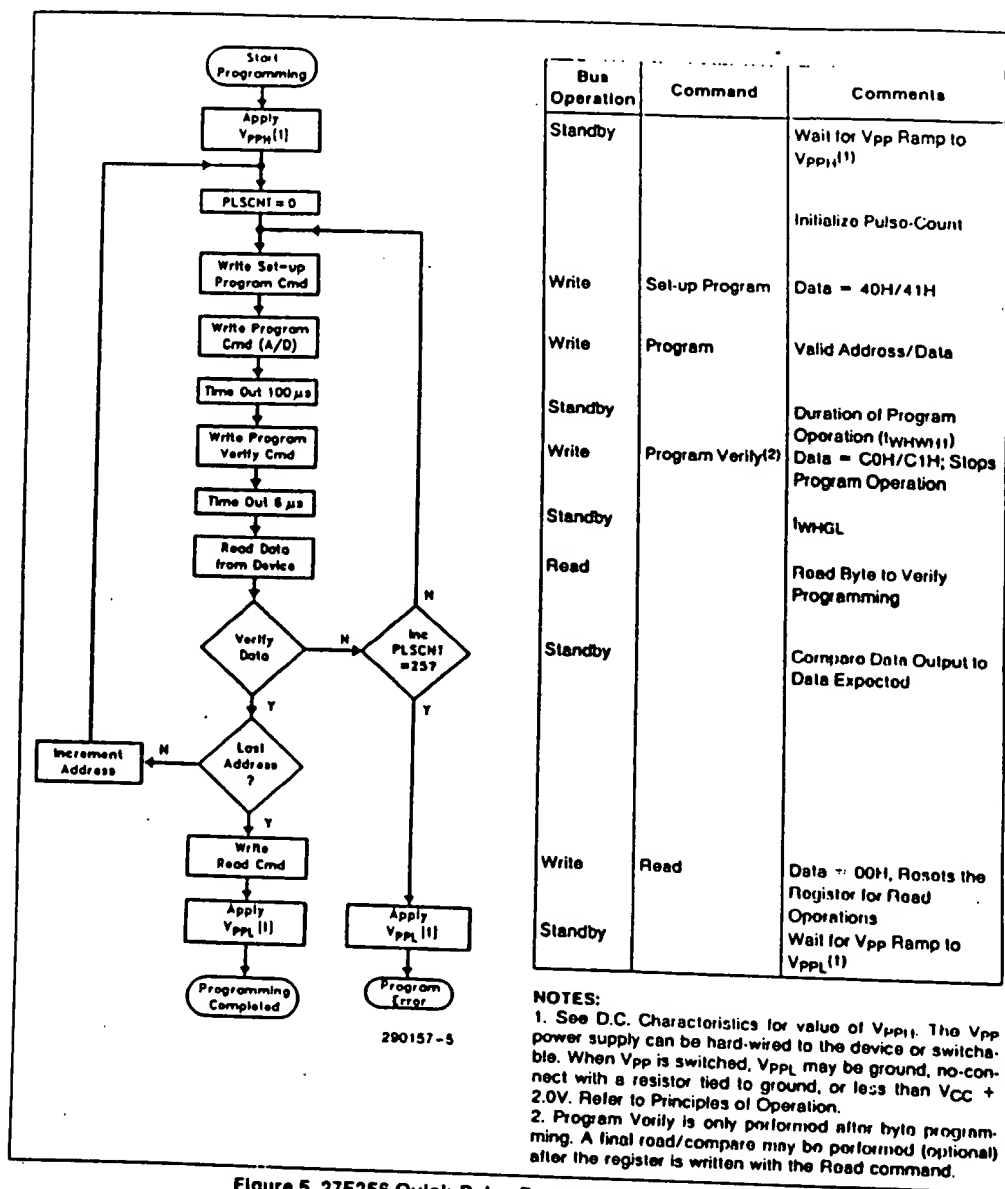

Figure 5. 27F256 Quick-Pulse Programming™ Algorithm
5. Figure 5 illustrates the Quick-Pulse Programming™ Algorithm.